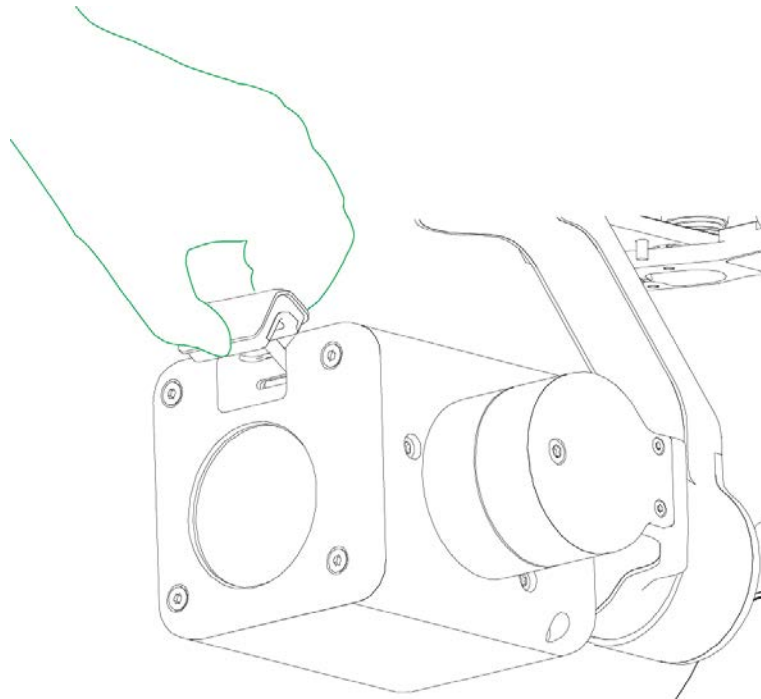

Figure 4-1
Step 1 Open SD card plug with a hand, as shown in Figure 4-1.